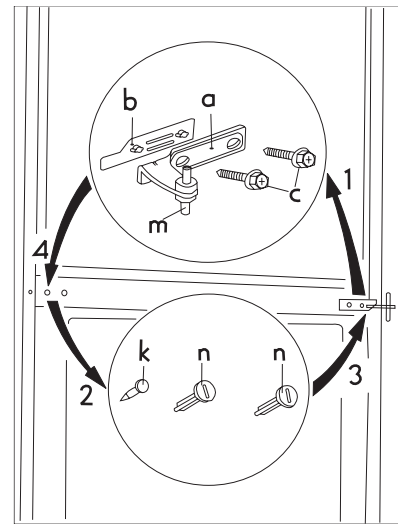

fig. 2.
- Open the doors and dismount the double door hinge (a,b) by removing the screws (2 pieces) (c). (fig. 2)
- Take off the double door hinge (a,b,c) by gradually removing it from the cabinet, slightly tilting both doors. Do not forget to remove the plastic spacer (b) under the hinge. (fig. 2)
- Remove the covering nails (3 pieces) (n,k) of the double door holder on the left side and put them to the other side. (fig. 2)
- Fit the pin of the double door hinge (m) into the left drill of the freezer door. (fig. 2)